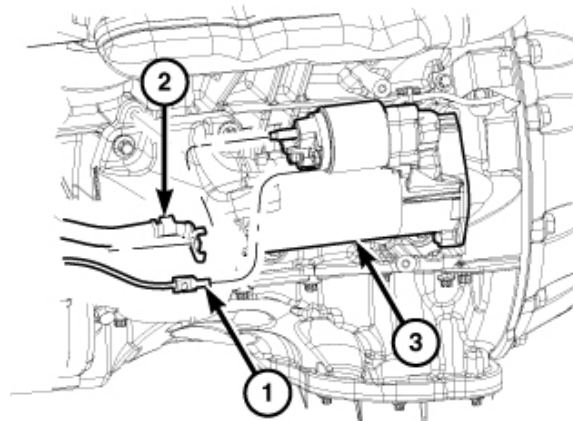

Figure 21 – Starter Removal
48. Remove nut and the B+ battery cable (2). (Figure 21).
49. Disconnect the solenoid wire harness connector (1) (Figure 21).
50. Remove bolts and the starter (3) (Figure 21).